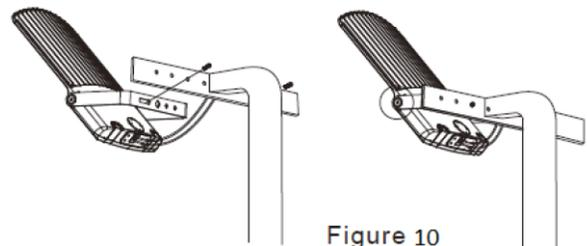

Figure 10
- Step 4:** Tilt the luminaire to the desired angle and tighten the setscrews to lock the fixture orientation. (Figure 10)